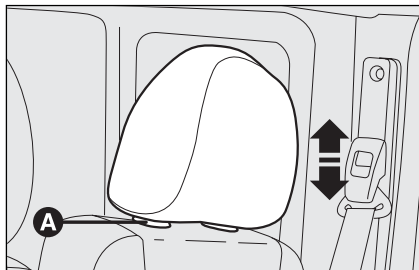
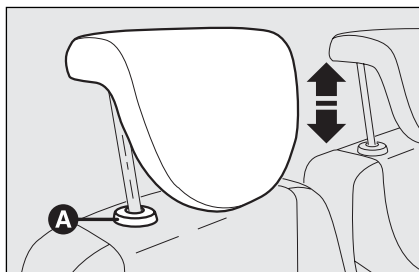

fig. 33
fig. 34
- ☐ press buttons **A-fig. 33** or **A-fig. 34** and lower the head restraint.